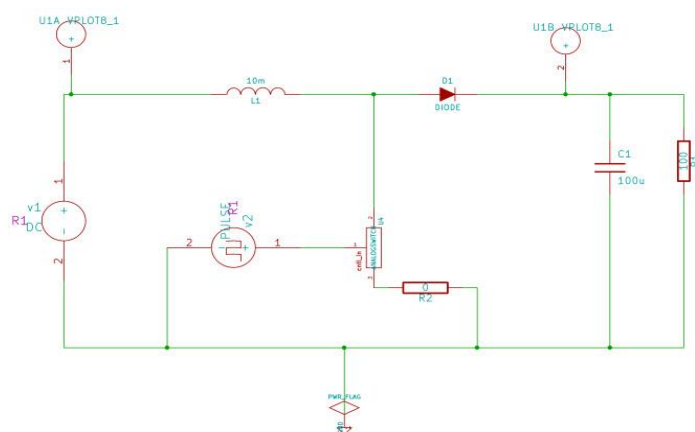

Fig. 4.1 Schematic of step up chopper
1. Create the schematic of the step up chopper as shown in Fig. 4.1.